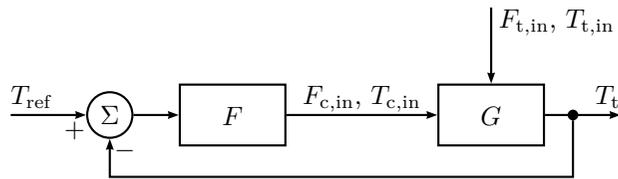

Figure 3.30a
3.30 a) See the block diagram in Figure 3.30a. There, the signals are classified as: